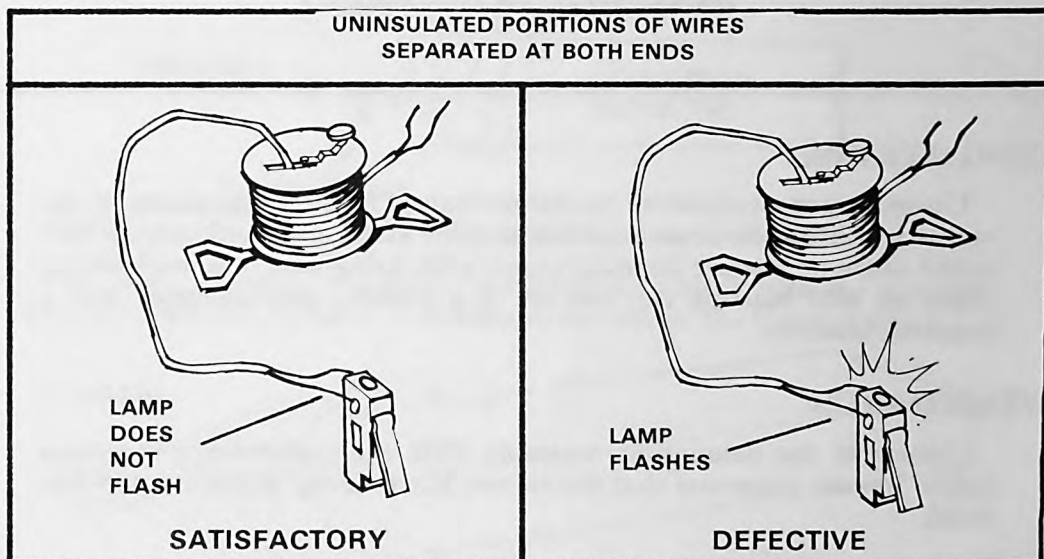

Figure 2a.
(1) Separate the firing wire conductors at both ends, and connect those at one end to the test set binding posts. Actuate test set. The indicator lamp should not flash. If it does, the firing wire has a short circuit (figure 2a).